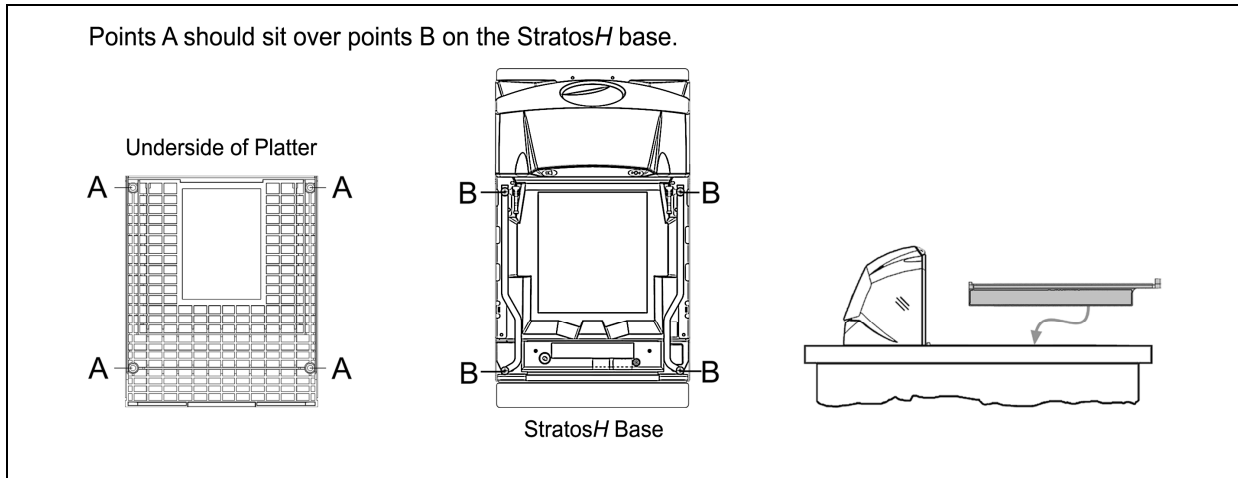

Figure 49. Platter Installation
4. Reinstall the platter onto the scanner/scale (see *Figure 49*).